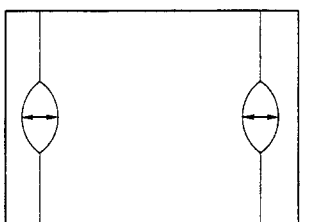

fig. 9
- d) Adjust the East/West 2 to obtain condition as in fig. 9.